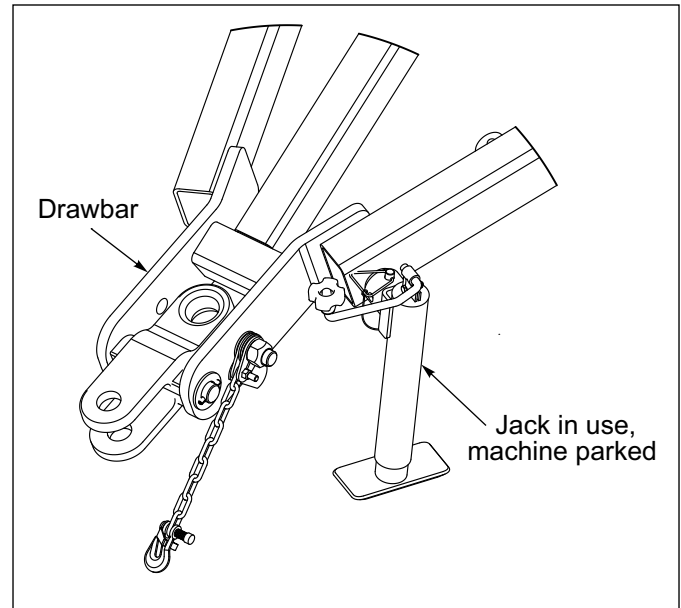
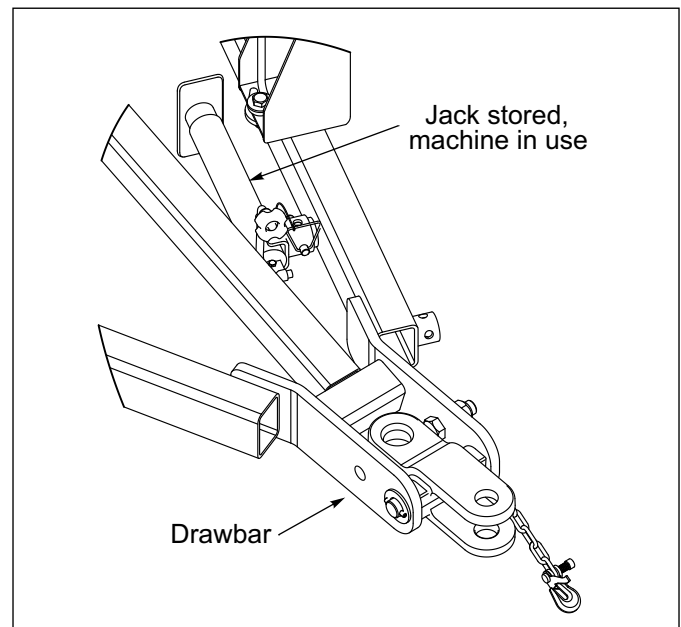

Figure 2-27: Jack in Use
Figure 2-28: Jack Stored
4. Attach the Jack to the drawbar front outside sleeve when the machine is parked. **See Figure 2-27.** When the machine is in use, move the Jack to the drawbar front inside sleeve. **See Figure 2-28.**